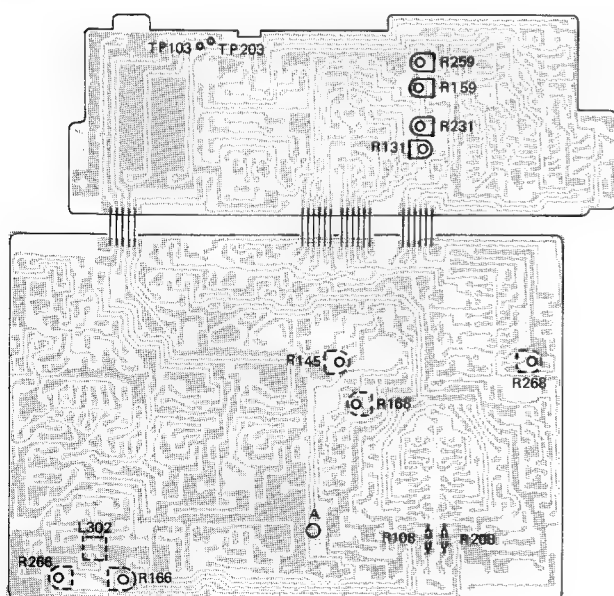

Fig. 28
- a. Remove the solder on the part (A) of copper side to open circuit as shown in Fig. 28.